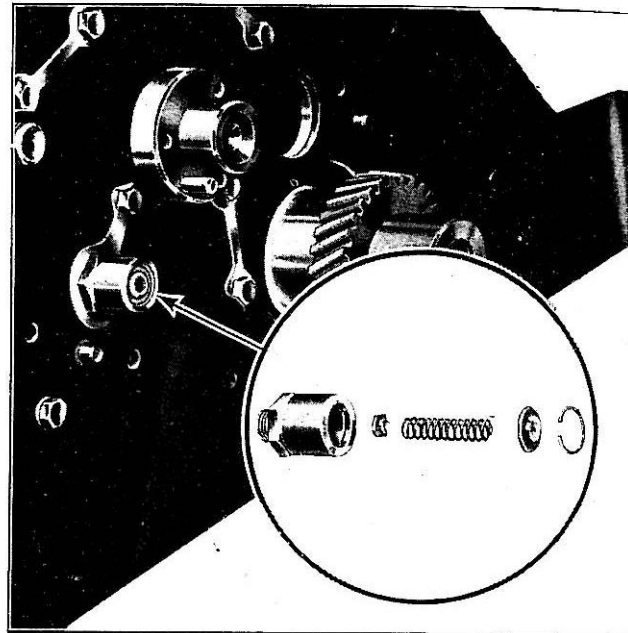

Fig. 84
- 2 Bend back the tab of the locking plate and unscrew the oil relief valve from the mounting plate. (See Fig. 84.)